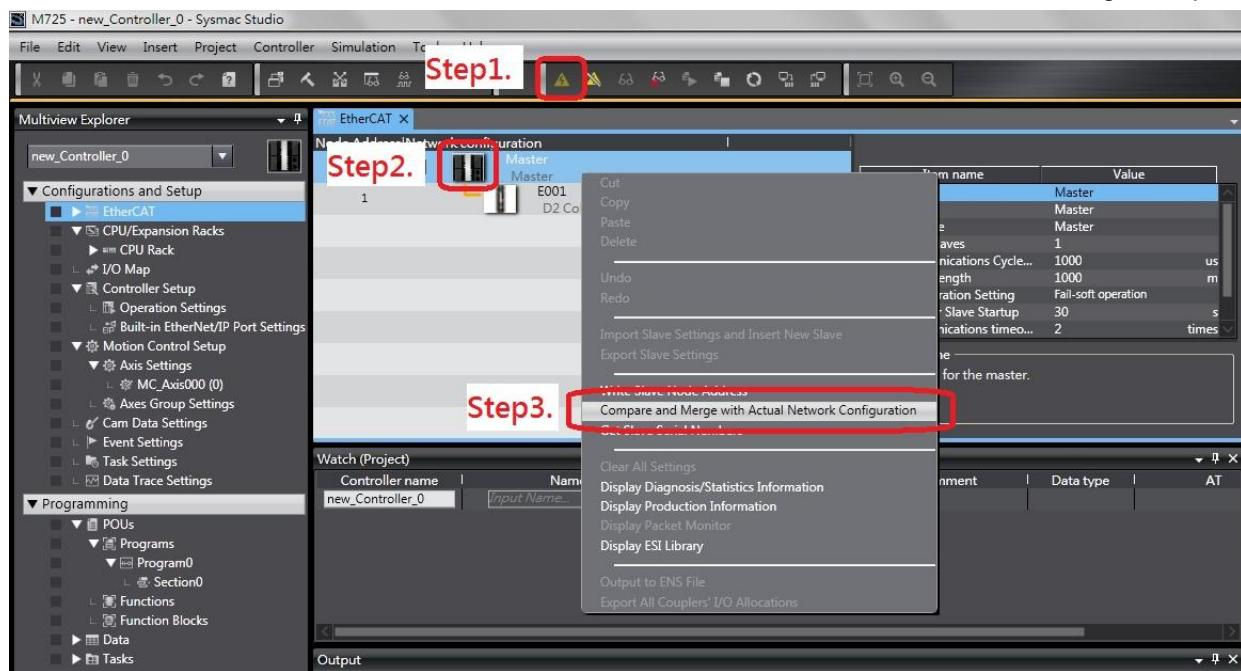

Fig. 5-40
- (5) Open the window of “Compare and Merge with Actual Network Configuration”, as shown in Fig. 5-40.
- (6) Check if “Node Address” is the same as the value written in Step (4). If they are the same, it means that slave ID writing is successful. If the exclamation point appears in the front of drive, it means that the actual slave ID of drive is different with that in the network configuration of Sysmac Studio. Press the button of “Apply actual network configuration” to let the network configuration of Sysmac Studio is the same as the actual network configuration.